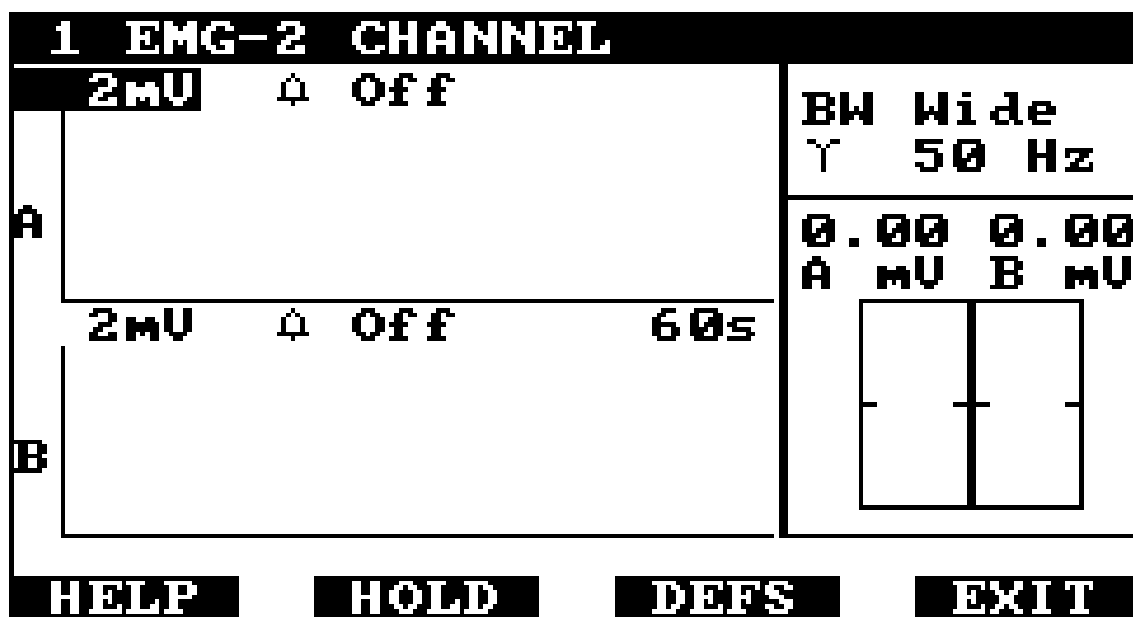

Figure 10 - EMG Set-Up and Display
3. The Medi-Link will run the EMG program and the display will change to show the EMG Set-Up (figure 10). The current settings of the module are displayed. The EMG signals from each channel are displayed in the line graphs on the left of the screen. If no other application is being run as an inset screen, then the output from each channel is also displayed in both numeric and bargraph form on the right side of the screen.